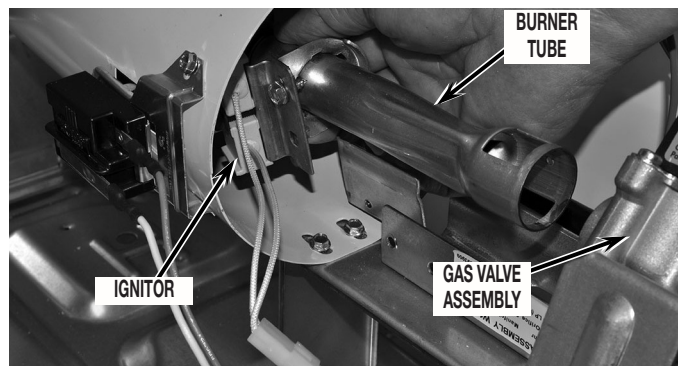

FIGURE 2
- Slide burner tube forward far enough to gain access to orifice. Do not bump ignitor. See Figure 2.